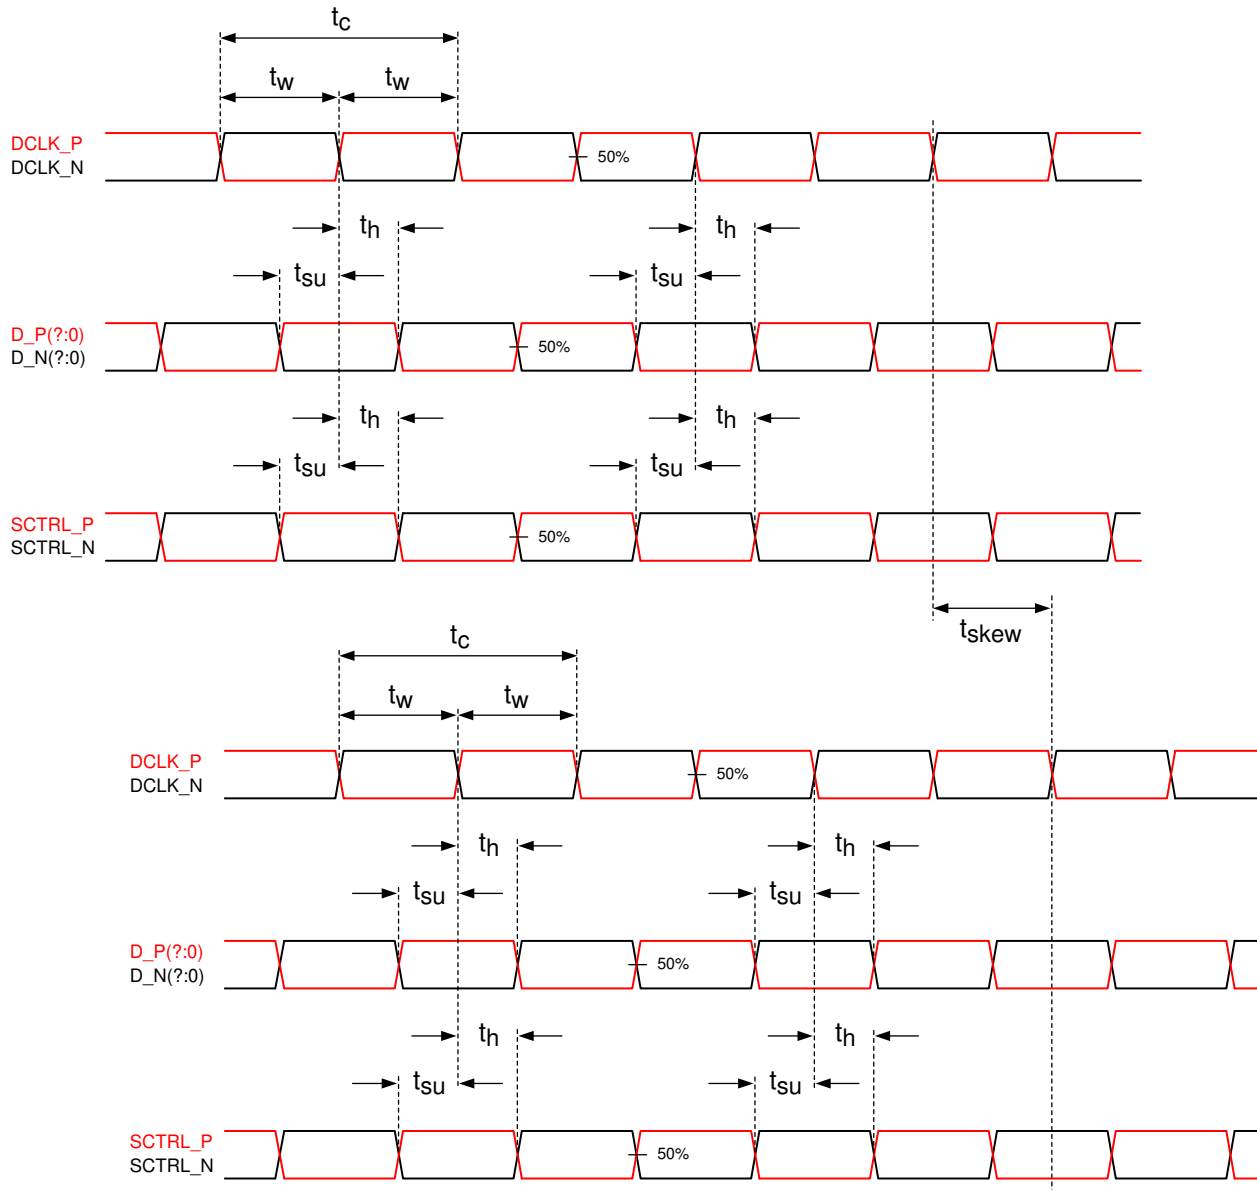

Figure 5-6. Timing Requirements
- See LVDS Timing Requirements in Section 5.8 and Figure 5-6.